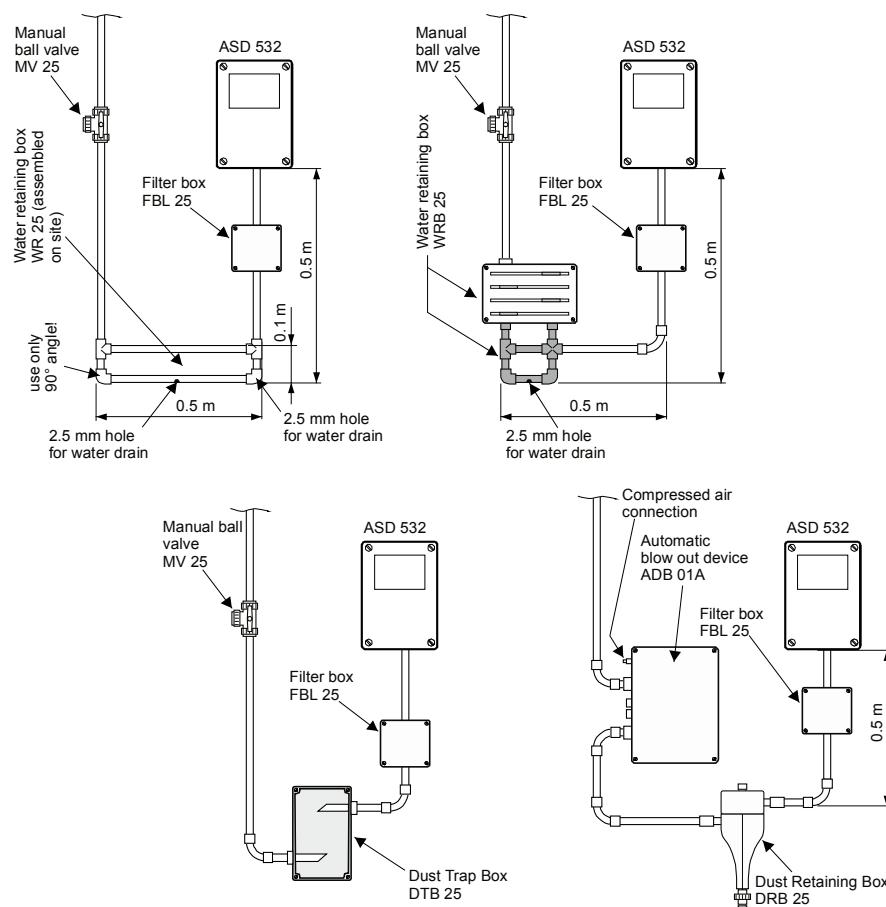

Fig. 16 Mounting accessory parts
- The mounting positions for the water retaining box, dirt trap box and dust retaining box must be observed as indicated in Fig. 16.